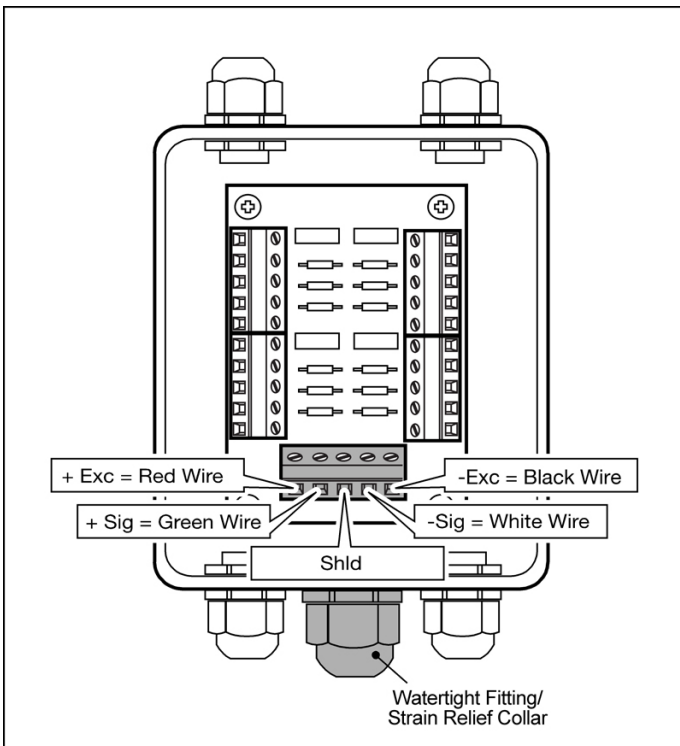

Fig. 2: Junction Box Wiring Diagram
4. Referring to the Fig. 2 diagram on the following page: